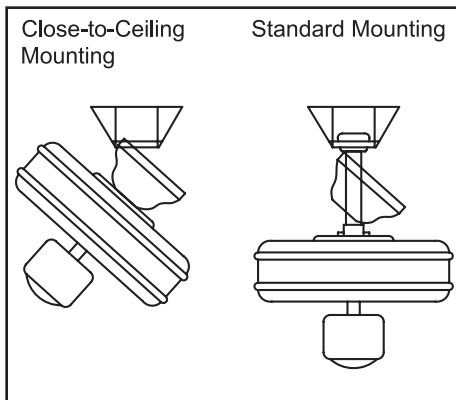

Figure 11
4. Carefully lift the fan assembly up to the ceiling mounting plate and hang the fan on the hook provided by utilizing one of the holes at the outer rim of the ceiling canopy (Figure 11). If using standard mounting, seat the hanger ball in the mounting plate socket. Make sure the tab on the mounting plate socket is properly seated in the groove of the hanger ball.
THE HOOK AS SHOWN IN FIGURE 11 IS ONLY TO BALANCE FAN WHILE ATTACHING WIRING. FAILURE TO HANG AS SHOWN IN FIGURE 11 MAY RESULT IN HOOK BREAKING, CAUSING THE FAN TO FALL. HOOK MUST PASS FROM INSIDE TO OUTSIDE OF CANOPY